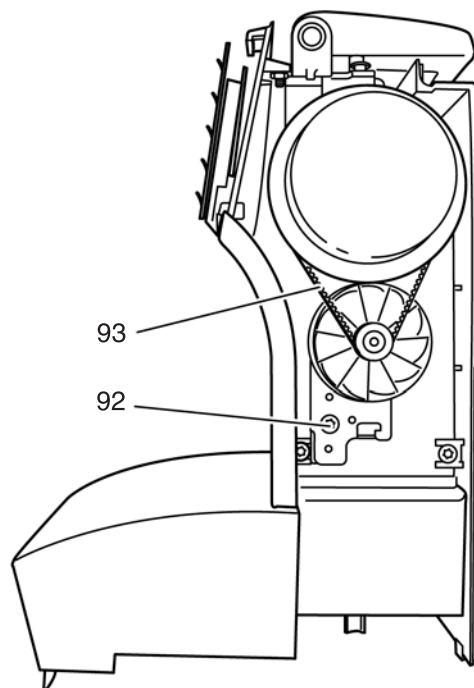

Fig. 59
- Loosen motor-mounting fastening screw 92 (fig. 59).
- Fit the motor's flat-toothed belt 93 (fig. 59).